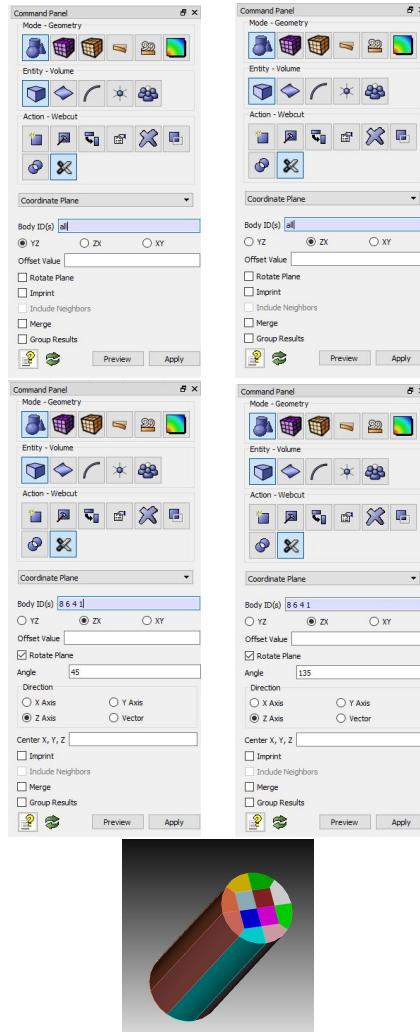

Figure 15: Webcut
- (4) Create brick 0.004, 0.004, 0.0235 (Figure.15)
- (5) Webcut.(Figure.15)